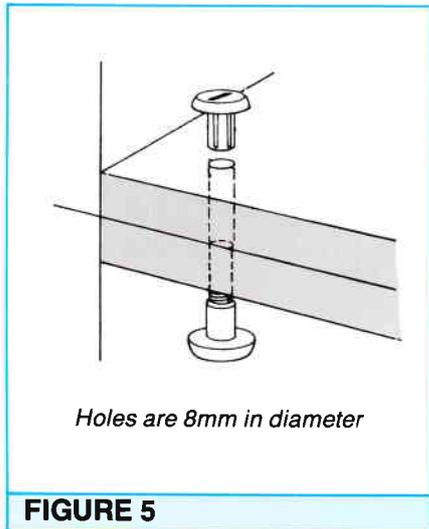

FIGURE 5
- 5** The boxes are joined together using “VS Connector Screws” (**Figure 5**). Position these 40mm in from the sides, 50mm in from the front, and 20mm in from the back. 8mm diameter holes are needed. Take care not to tear through the back of the material when drilling – scrap held against your workpiece as a back-up is helpful. The appearance of the unit is improved if the Connector Screws are countersunk flush with the surface of **B** in each case. Do this by carefully counterboring with a 17mm flat bottom bit; a ratchet brace is useful here.